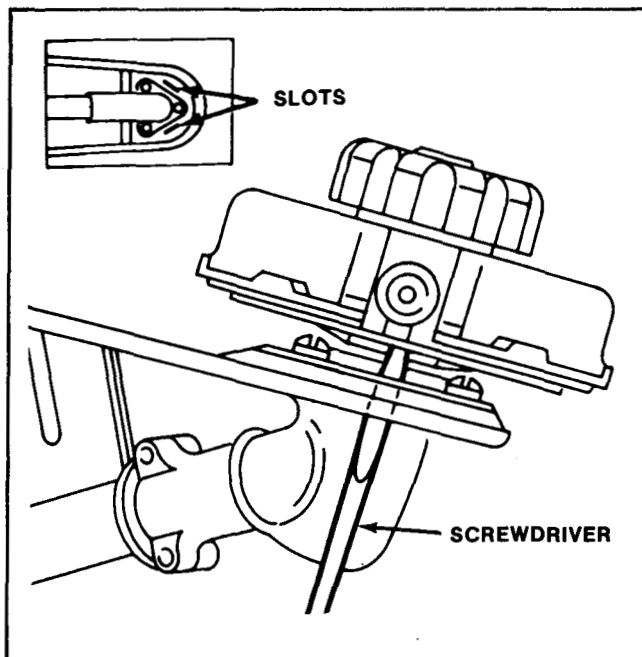

Figure 140
1. Remove the head assembly by inserting a medium blade screwdriver into one of the two slots in the top of the shield. See Figure 140. This prevents the head from rotating.
6. Reinstall the head assembly onto the drive shaft by turning counterclockwise. Insert a medium blade screwdriver into one of the slots shown in Figure 140 to prevent the drive shaft from rotating.